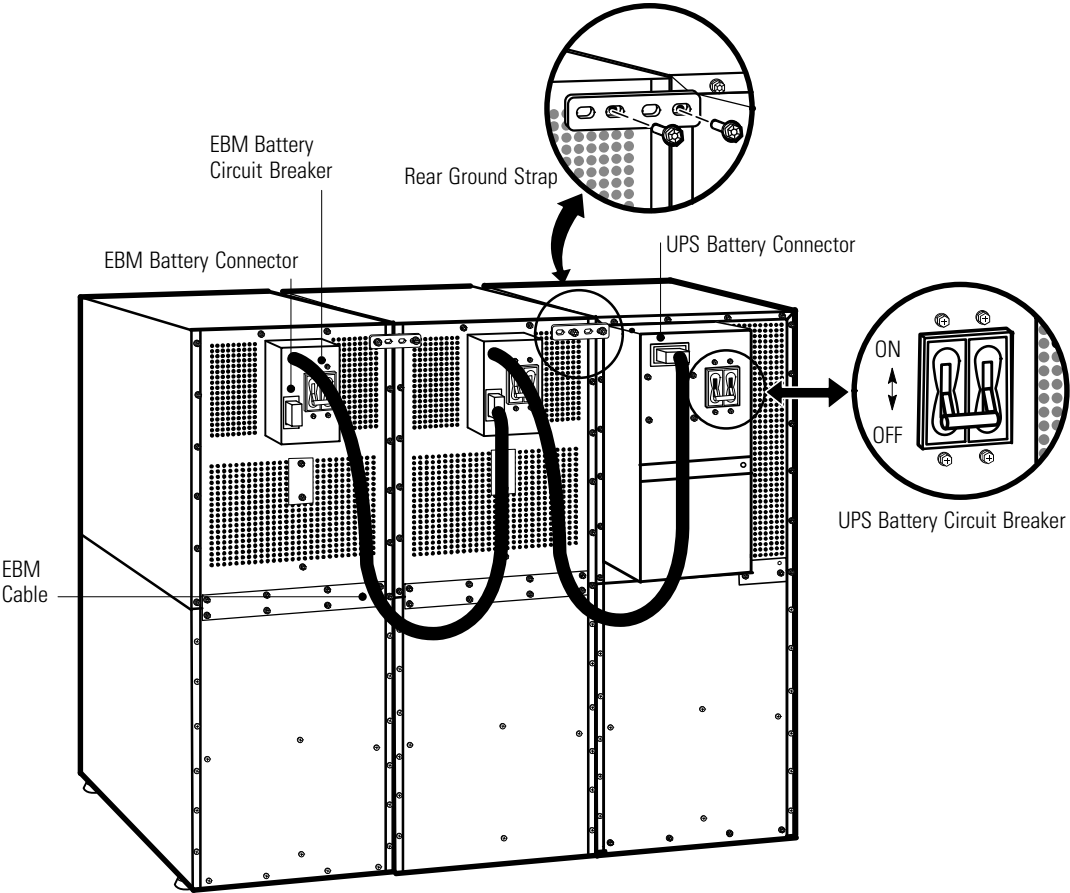

Figure 26. Typical EBM Installation (2-High Cabinets Shown)
2. Verify that all battery circuit breakers are in the OFF position (see Figure 26).
4. Install one ground strap between the UPS and EBM rear panels as shown in Figure 26.
5. If additional EBMs are installed, attach another ground strap between the first and second EBM as shown in Figure 26. Repeat for each additional EBM.